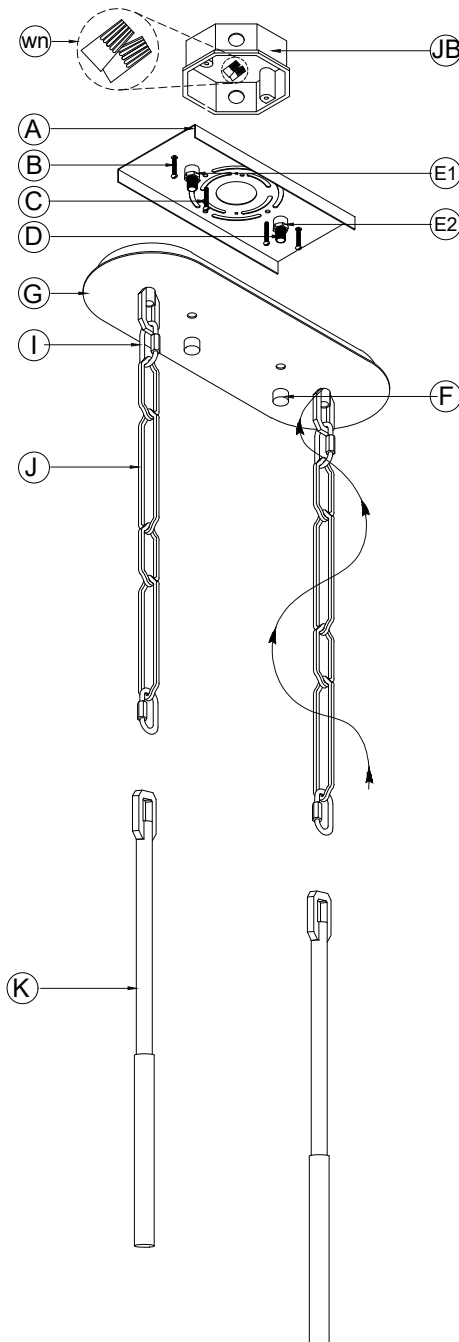

Figure 2
2. Fasten mounting strap (A) to outlet box (JB) with the two pcs. screws (C), along with two screws (B) to the ceiling.
3. Thread 2-hex nuts (E1) and (E2) onto threaded nipple (D).
4. Slip canopy (G) over (2 pcs) threaded nipple (D) up firmly against the ceiling and adjust height of threaded nipple (D).
5. Lock the Canopy (G) using nut (F).
6. Taking the (2pcs) chain (J), determine the length you require to hang the fixture.
7. Attach speed link (I), (2pcs) to loop of the Canopy (G).
8. Attach (2pcs) Stem Stem loop (K) to the fixture, - see Figure 2.